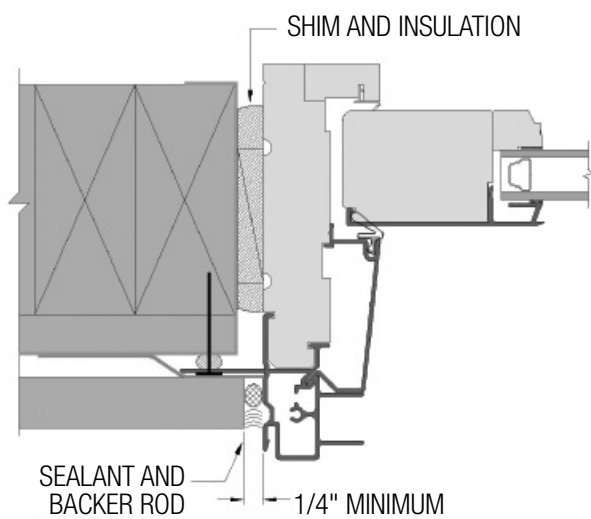

FIG. 24: SIDE JAMB
- A) After siding or wall exterior is complete, apply backer rod and sealant between the door frame and siding material on both sides. (Fig. 24, 25 & 26)
- D) Insulate between the door frame and the rough opening using minimally expanding window and door spray foam insulation. Use caution to not overfill the gap, causing the jambs to bow. It is not recommended to apply trim to the unit until the foam has cured to allow the excess to escape. (Fig. 24, 25 & 26)